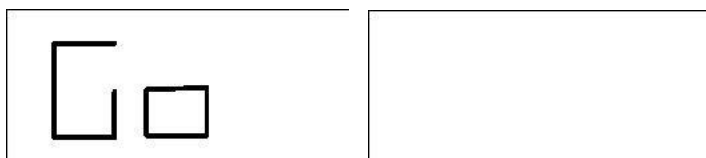

Fig. F5.5 “Run the launch” message
4. Press [P4] . The message seen in figure F5.5 will be displayed;